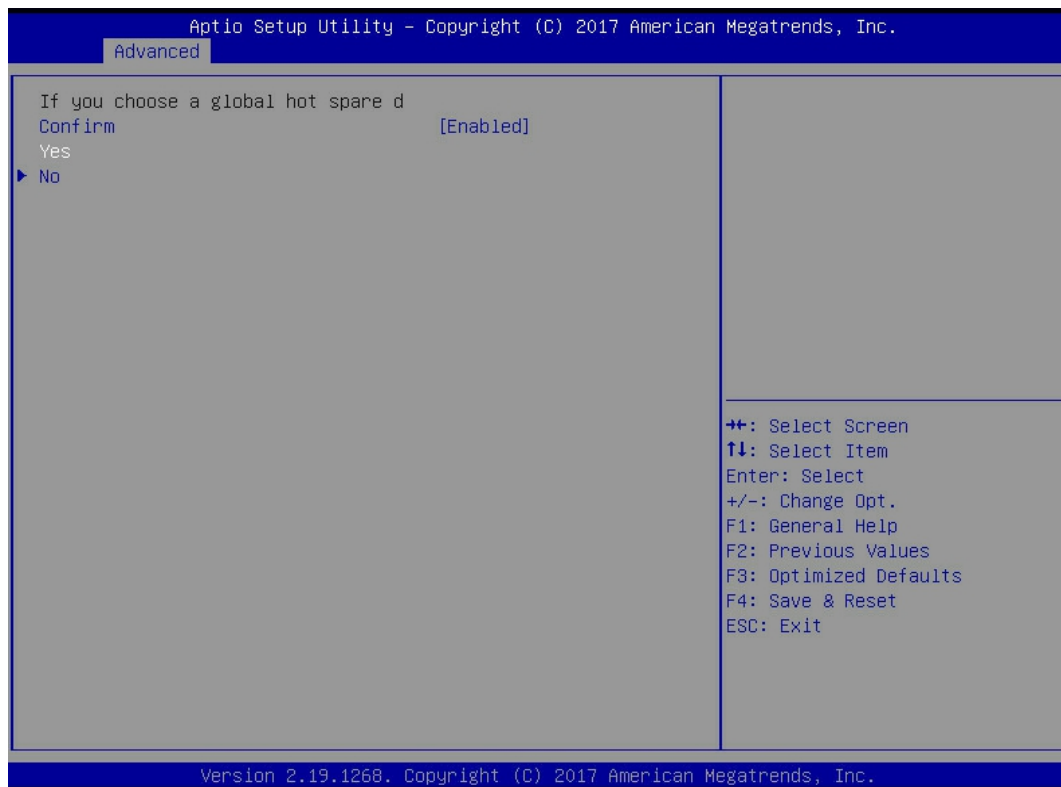

Figure 6-47
e) Enter the interface shown in figure 6-47, select confirm to enable it, select Yes, and press enter.
✧ Figure 6-47 confirm configuration